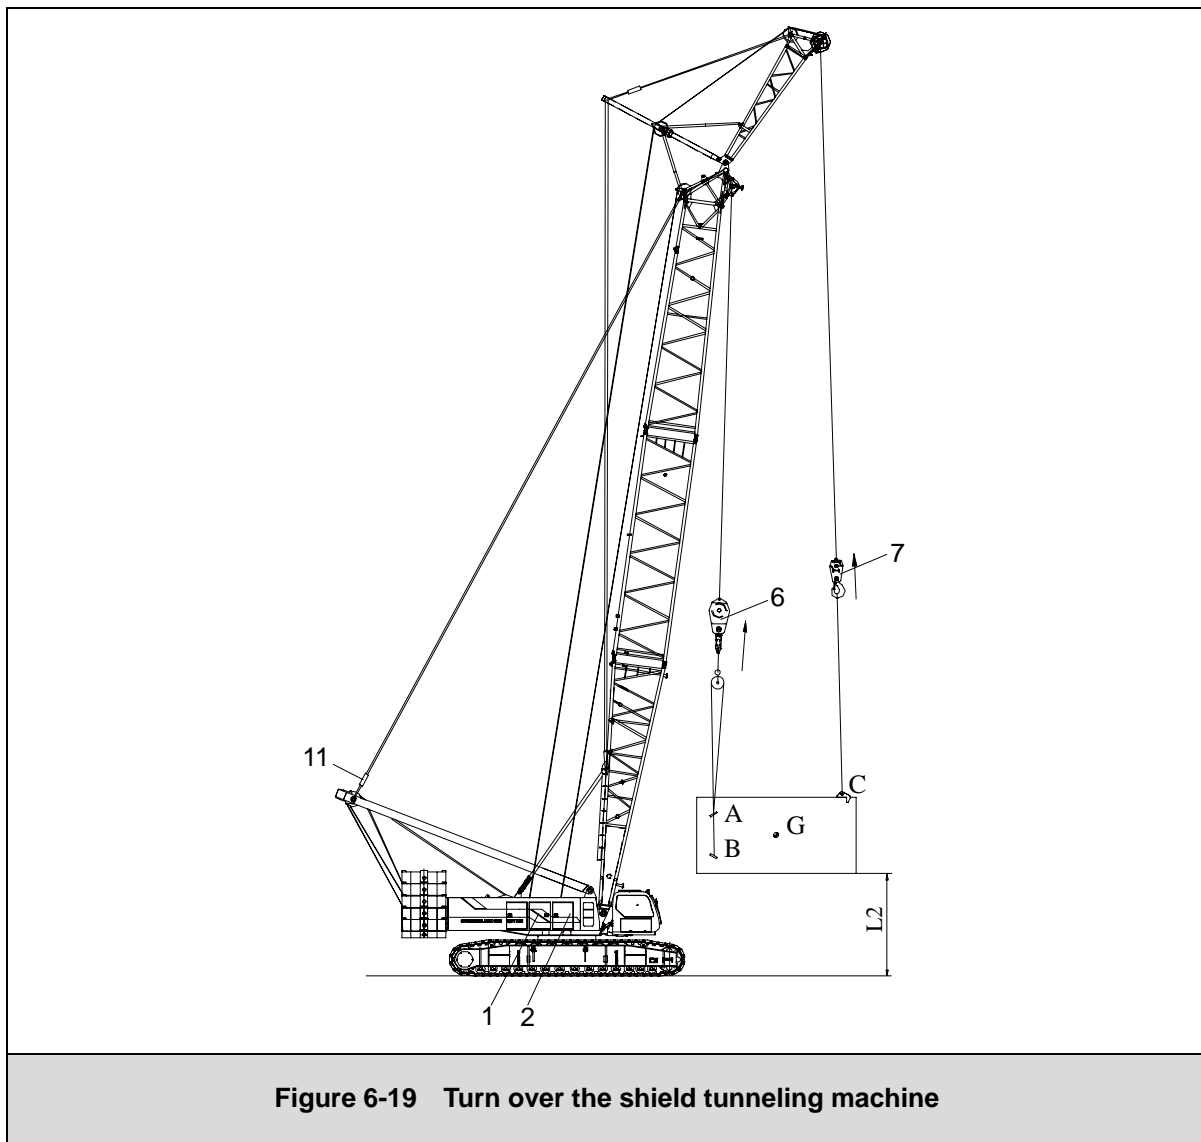

Figure 6-19 Turn over the shield tunneling machine
Move left control lever and right control lever together to spool up hoisting winch 1 and reel off hoisting winch 2, main load hook (6) is lifted slowly and auxiliary load hook (7) is lowered slowly at the same speed. The chain (4) of wire rope slides on the pulley (5). Keep the distance between the point D of shield tunneling machine and the ground. The load moment limiters (10, 11) for main boom anchoring rods and fixed jib front anchoring rods ensure the stability of complete vehicle. (See Figure 6-19)